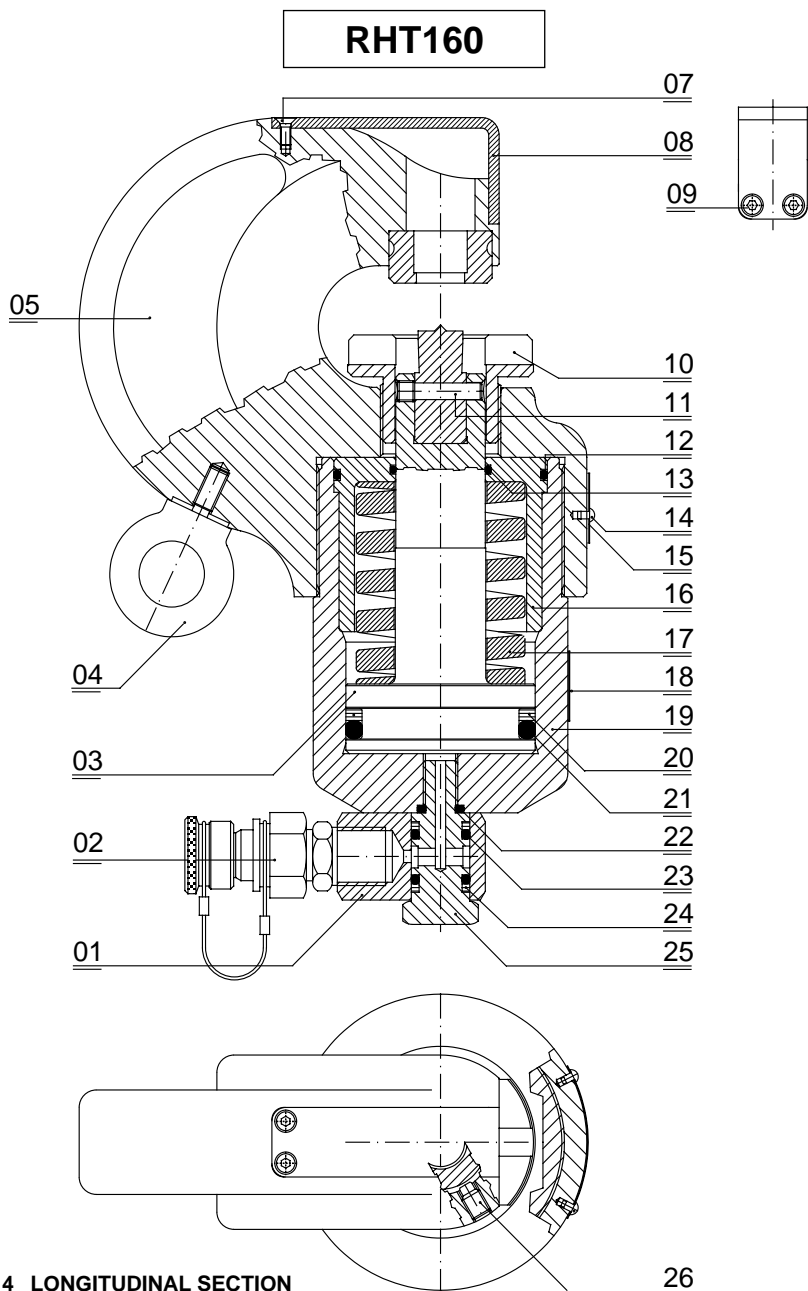

FIG. 4 LONGITUDINAL SECTION
9. PARTS LIST (Ref. to Fig. 4 or Fig. 5)